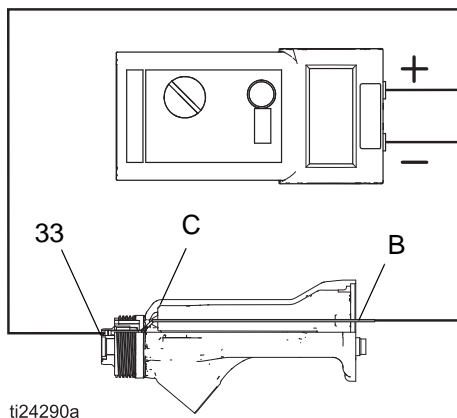

FIG. 22 Test Gun Barrel Resistance
1. Insert a conductive rod (B) into the gun barrel (removed for the power supply test) and against the metal contact (C) in the front of the barrel.
2. Measure the resistance between the conductive rod (B) and the conductive ring (33). See FIGURE 22. The resistance should be 10-30 megohms. If the resistance is incorrect, make sure the metal contact (C) in the barrel and the conductive ring (33) are clean and undamaged.
3. If the resistance is still outside the range, remove the conductive ring (33) and measure the resistance between the conductive rod (B) and the wire lead at the bottom of the conductive ring groove.
4. If the resistance is in range, replace the conductive ring (33) with a new one. Insert the ends of the conductive ring into the slots (S) at the front of the barrel, then press the ring firmly into the groove.